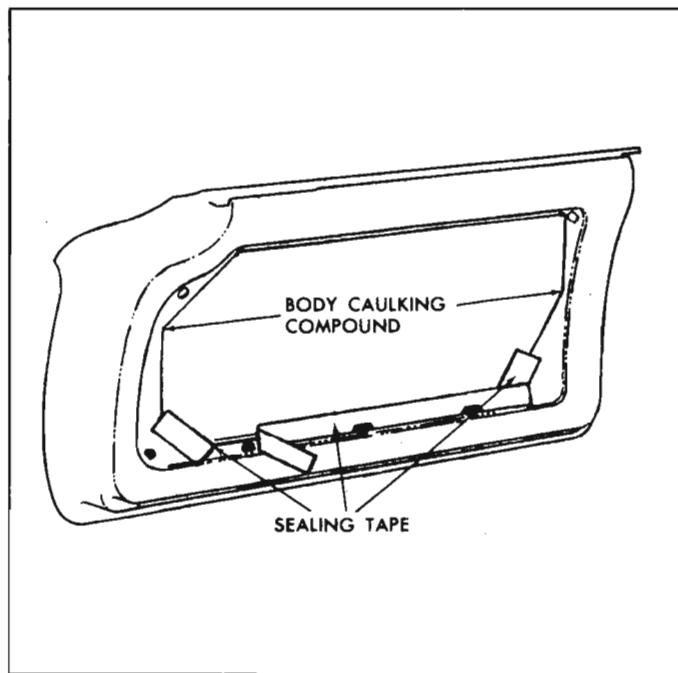

Fig. 10-43—Water Deflector Sealing Along Retaining Slot Area
4. Carefully disengage lower edge of water deflector from retaining slot, then roll deflector back to gain access to door inner panel (fig. 10-43).